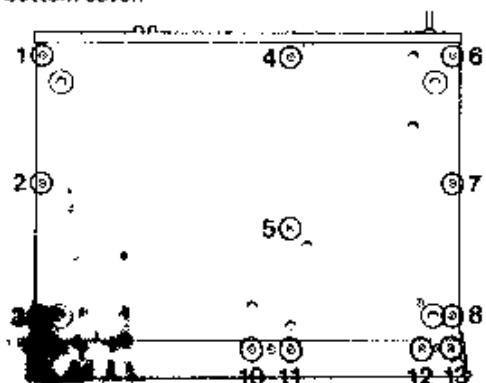
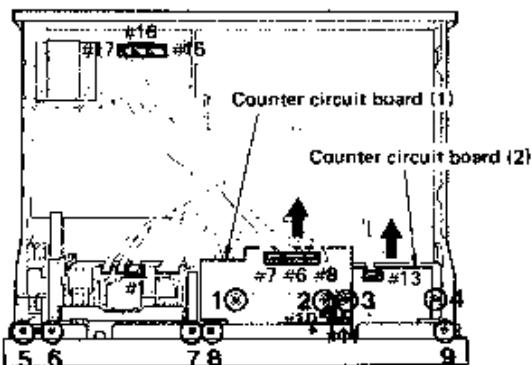
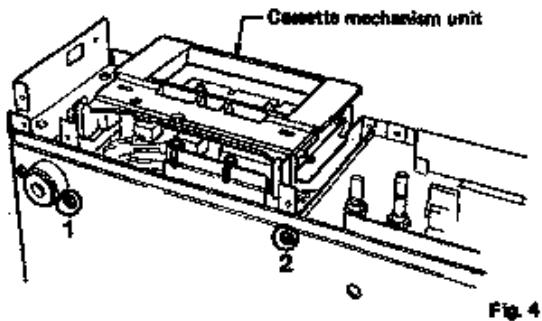

Fig. 2
Fig. 3
Fig. 4
Remove screws ① through ⑩ in fig. 2 and then remove the bottom cover.
- Remove screws ① and ② in fig. 3 and pull out the counter circuit board (1) backward gently (connected to the front panel by connectors.)
- Remove screws ③ and ④ in fig. 3 and pull out the counter circuit board (2) backward gently (connected to the front panel as well as counter circuit board (1).)
- Remove screws ⑨ through ⑬ in fig. 2 and screws ⑤ through ⑧ (yellow screws only) in fig. 3, and then pull out the panel forward gently.
- Remove screws ① and ② in Fig. 2 and screws ③ and ④ in Fig. 3 and screws ⑤ and ⑥ in Fig. 4, and then pull out the cassette mechanism unit backward gently.